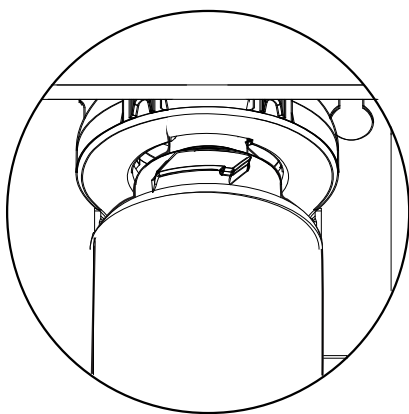
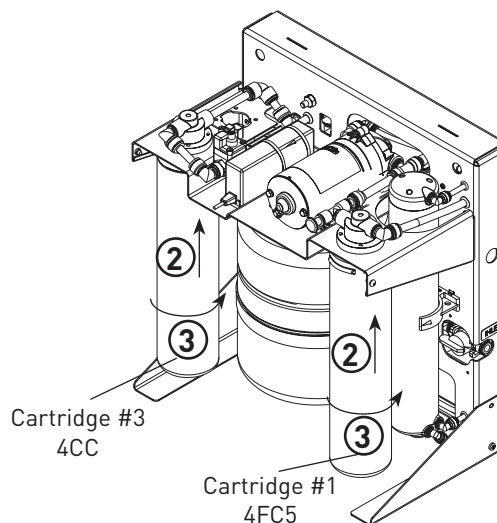

Figure 6
Figure 7
1. Line up the tabs with the slots in the opening on the front right side of the head assembly. See Figure 6 and Figure 7.
1. Line up the tabs with the slots in the opening on the left front side of the head assembly. See Figure 6 and Figure 7.